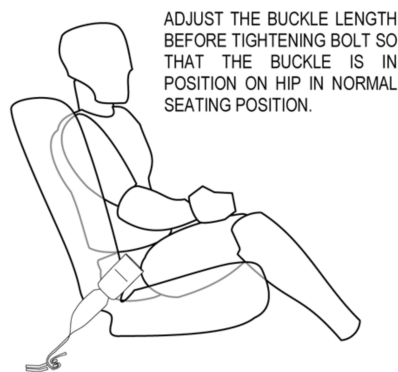

Fig. 9 (Above)
2. Before mounting the cable to vehicle or seat structure, confirm the buckle head is at or behind the position of the occupant's hipbone when the seat is in the lowest and farthest rear position, (Fig. 9 below).
2. Before mounting the bracket to vehicle or seat structure, confirm the buckle head is at or behind the position of the occupant's hipbone when the seat is in the lowest and farthest rear position, (Fig. 9 below).